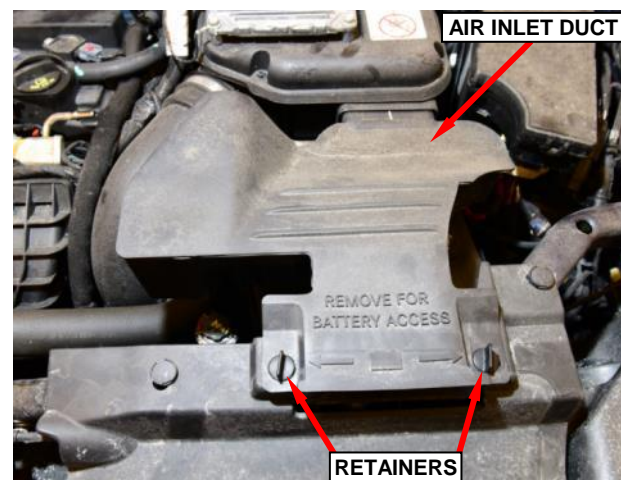

Figure 5 – Air Inlet Duct
13. Unlock the two retainers then remove the fresh air inlet duct from the air cleaner body (Figure 5).